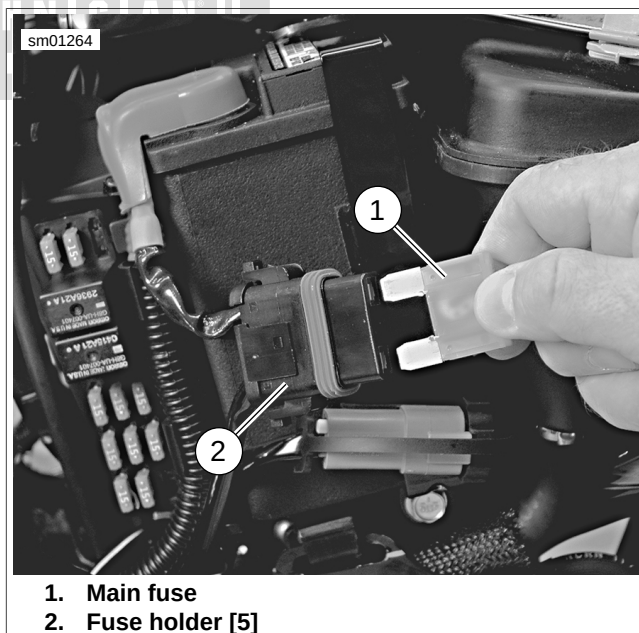

Figure 6-138. Removing/Installing Main Fuse: All Models (XL Model Shown)
3. See Figure 6-138. Grasp fuse holder (2) and pull main fuse (1) straight out.
2. See Figure 6-138. Install main fuse (1) by lining up spade terminals on fuse with sockets in fuse holder [5] (2). Press fuse firmly into holder.